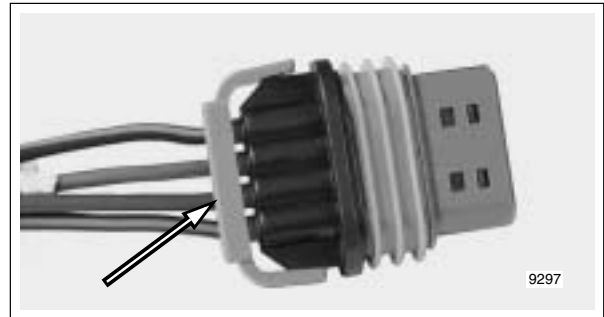

Figure B-16. Remove Wire Lock
2. If present, free one side of wire lock from ear on wire end of socket housing, then release the other side. Release wires from channels in wire lock and remove from socket housing. See Figure B-16.
4. If present, seat wires in separate channels of wire lock and then push channels inside chambers at wire end of socket housing. Fully installed, slot on each side of wire lock engages ear on socket housing. See Figure B-16.